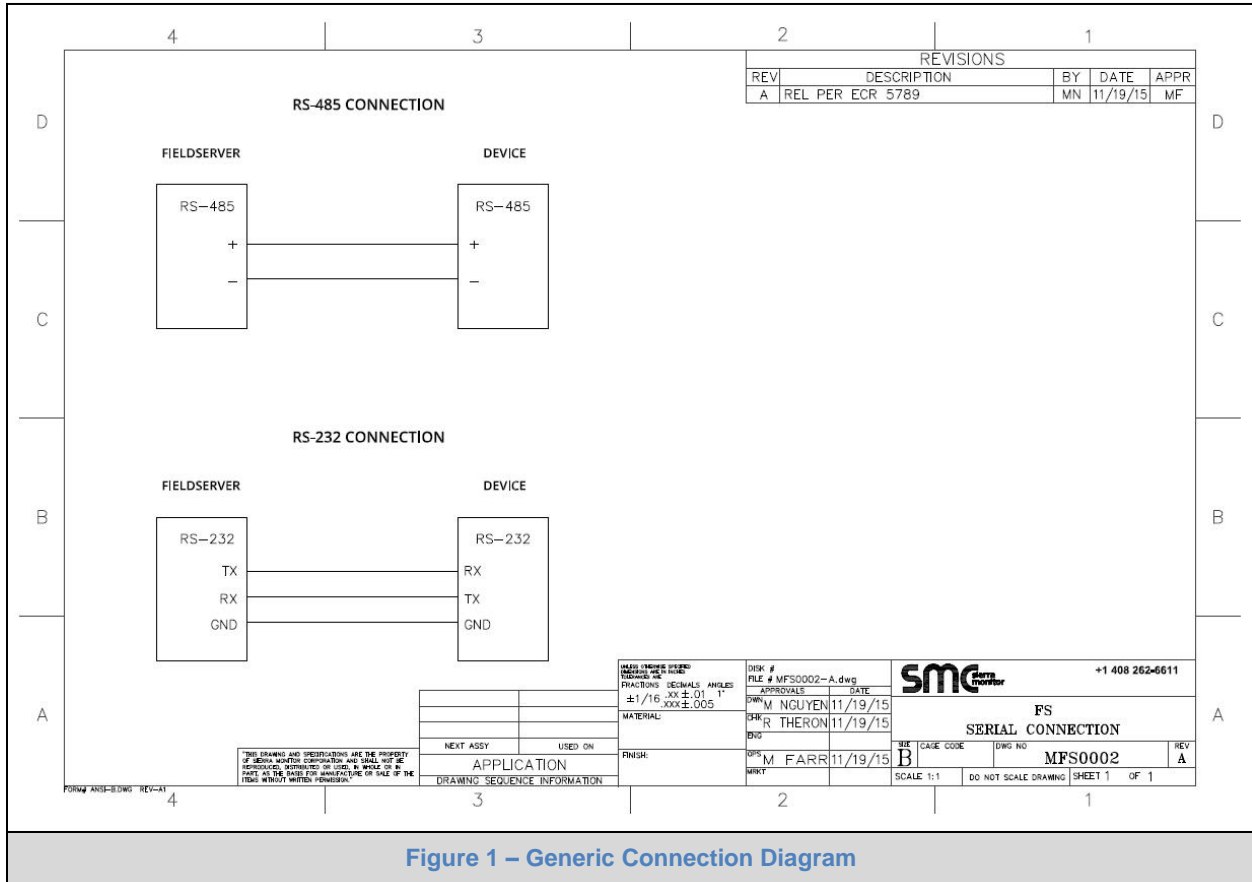

Figure 1 – Generic Connection Diagram
- Figure 1 – Generic Connection Diagram 5